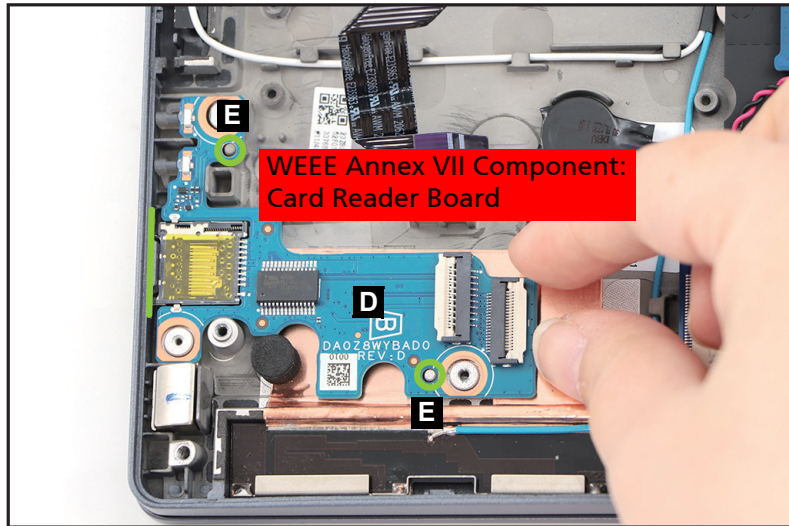

Figure 1-55. Card Reader Board Removal
5. Release the card reader board (D) from the card reader slot and guide pins (E) (Figure 1-55). Then remove the card reader board.